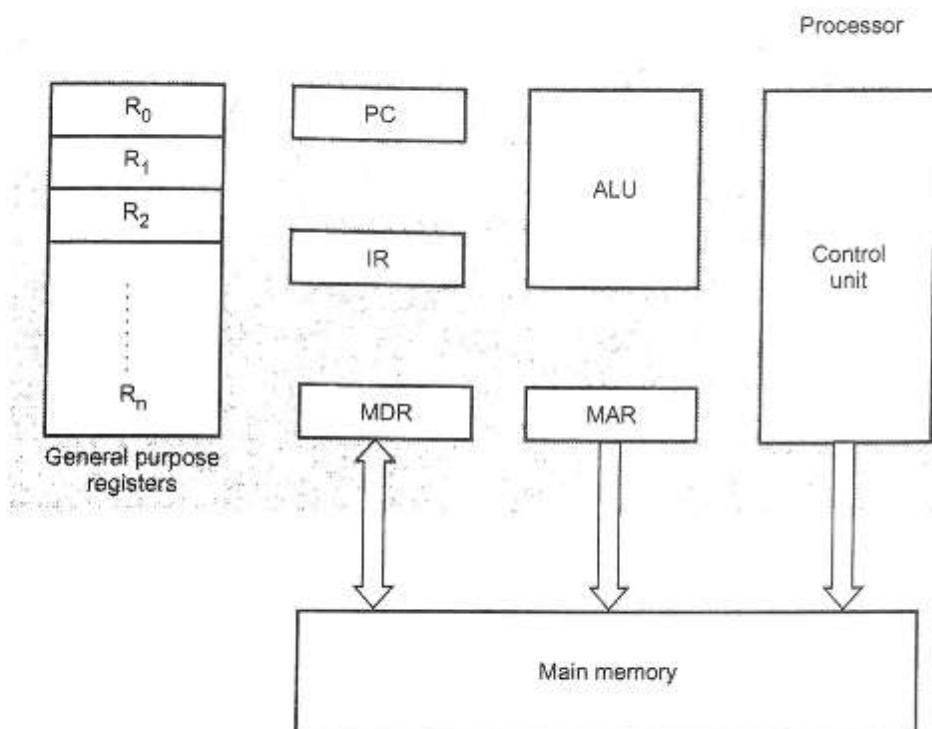

Fig. 1.3.1 Connections between the processor and the main memory
- To perform execution of instruction, the processor contains a number of registers used for temporary storage of data and some special function registers, as shown in Fig. 1.3.1.